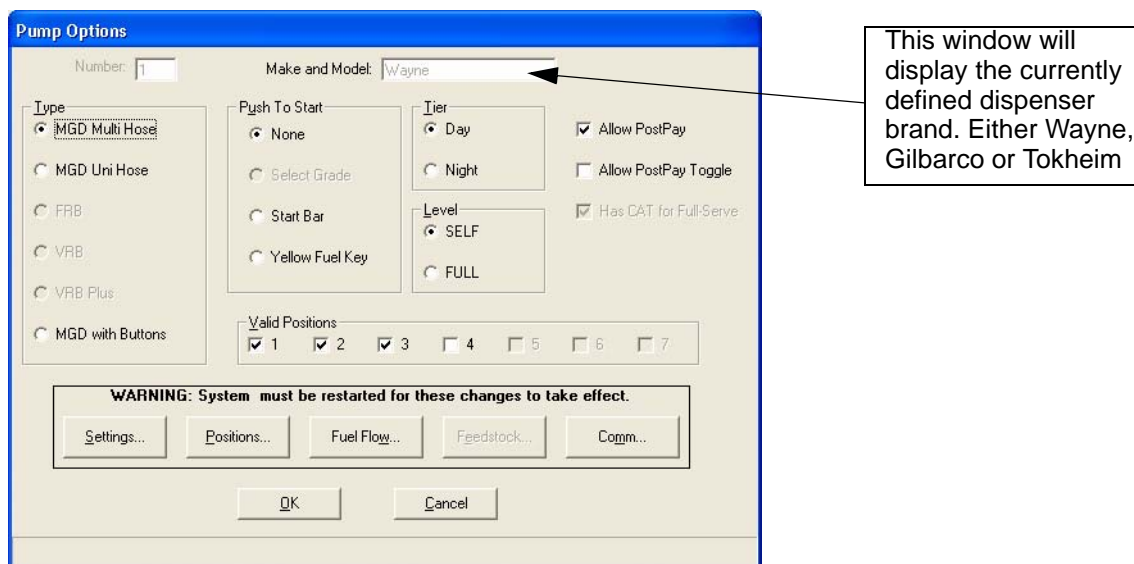

Figure 7-13 Pump Options Window for Dispensers
To add a pump to the list of dispensers, select **Add**. To change pump settings, select **Modify**. When you select Add or Modify, the Pump Options window appears. See Figure 7-13. This programming window allows you to set Pump type options, authorization and payment options, and tiers and levels of service selections.
- * **Authorize** - The authorization options No Auto Auth and Auto Auth allow the user to select the type of authorization control required for each fueling point. Selecting the Day or Night tier from the Pump Options screen in Figure 7-13 allows the user to program authorization options for day or night.
NOTE:The pump has to be defined as a blender in the Type field of the Pump Options window before this option will become available. See Figure 7-13.